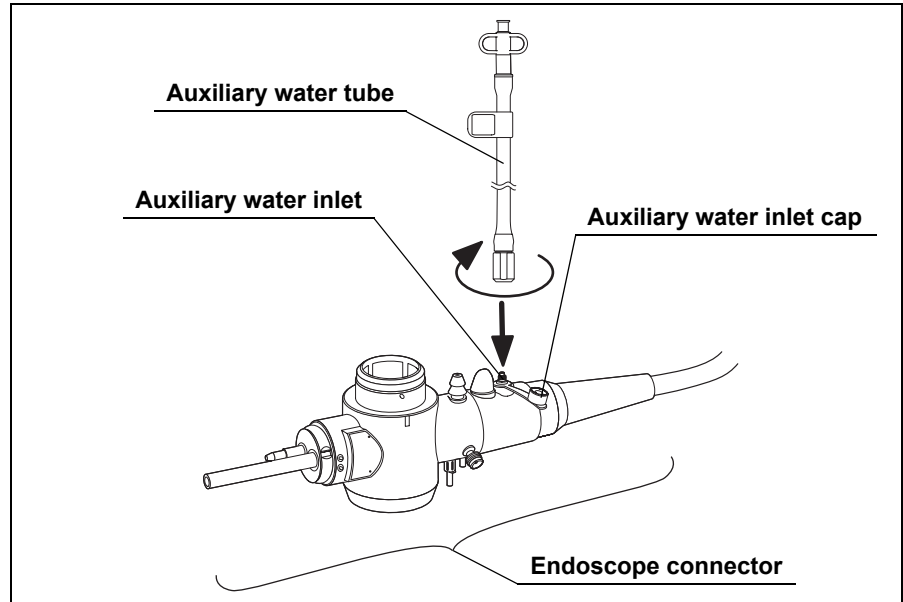

Figure 3.25
13. Open the auxiliary water inlet cap (for endoscopes with auxiliary water feeding only, see Figure 3.25).
14. Connect the auxiliary water tube to the auxiliary water inlet on the endoscope connector and turn it clockwise until it stops (for endoscopes with auxiliary water feeding only, see Figure 3.25).